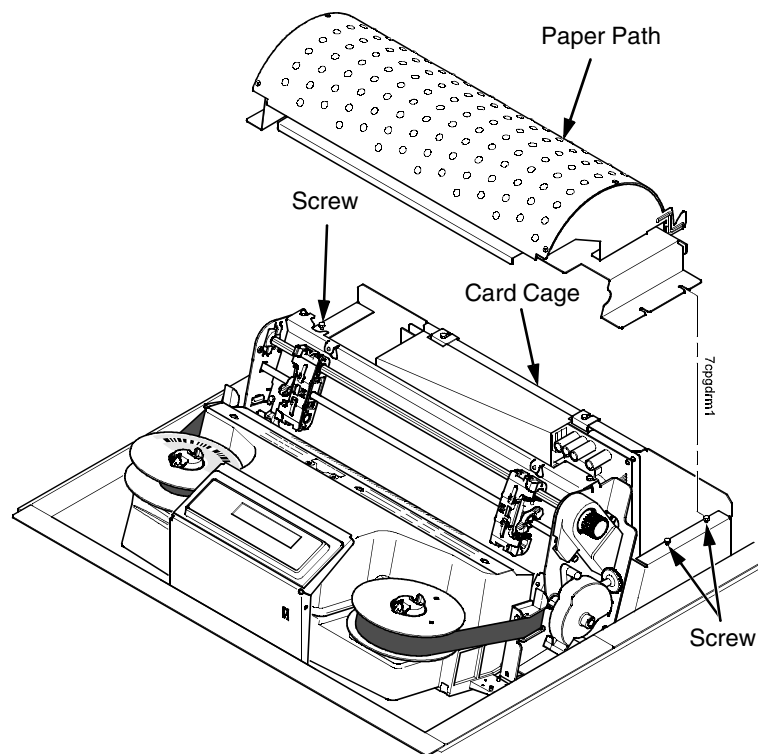

Figure 34. The Paper Path
2. Loosen—do not remove—the three screws that secure the paper path to the card cage. (See Figure 34.)
1. Position the paper path offset slightly to the left on the card cage with the keyway cutouts over the three loosened screws. (See Figure 34.)
3. Tighten the screws securing the paper path to the card cage. (See Figure 34.)